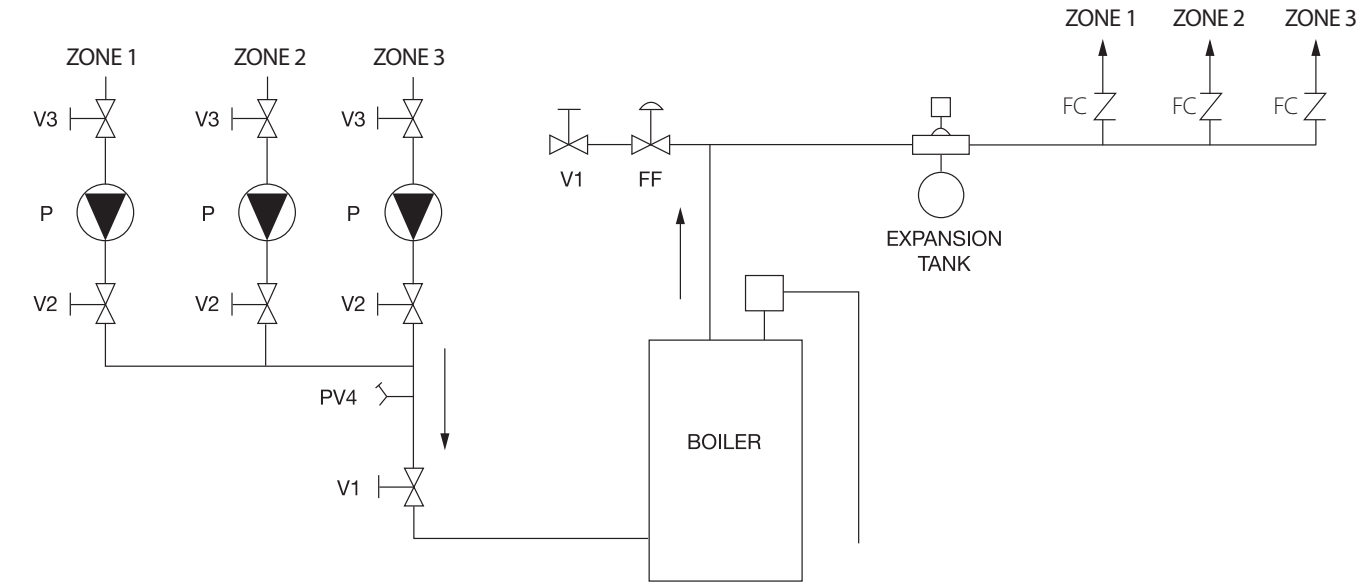

Figure 2
- 1. Location:** The circulator can be installed on the supply or return side of the boiler but for best system performance, it should always pump away from the expansion tank. See piping diagrams in Figure 2 & Figure 3.